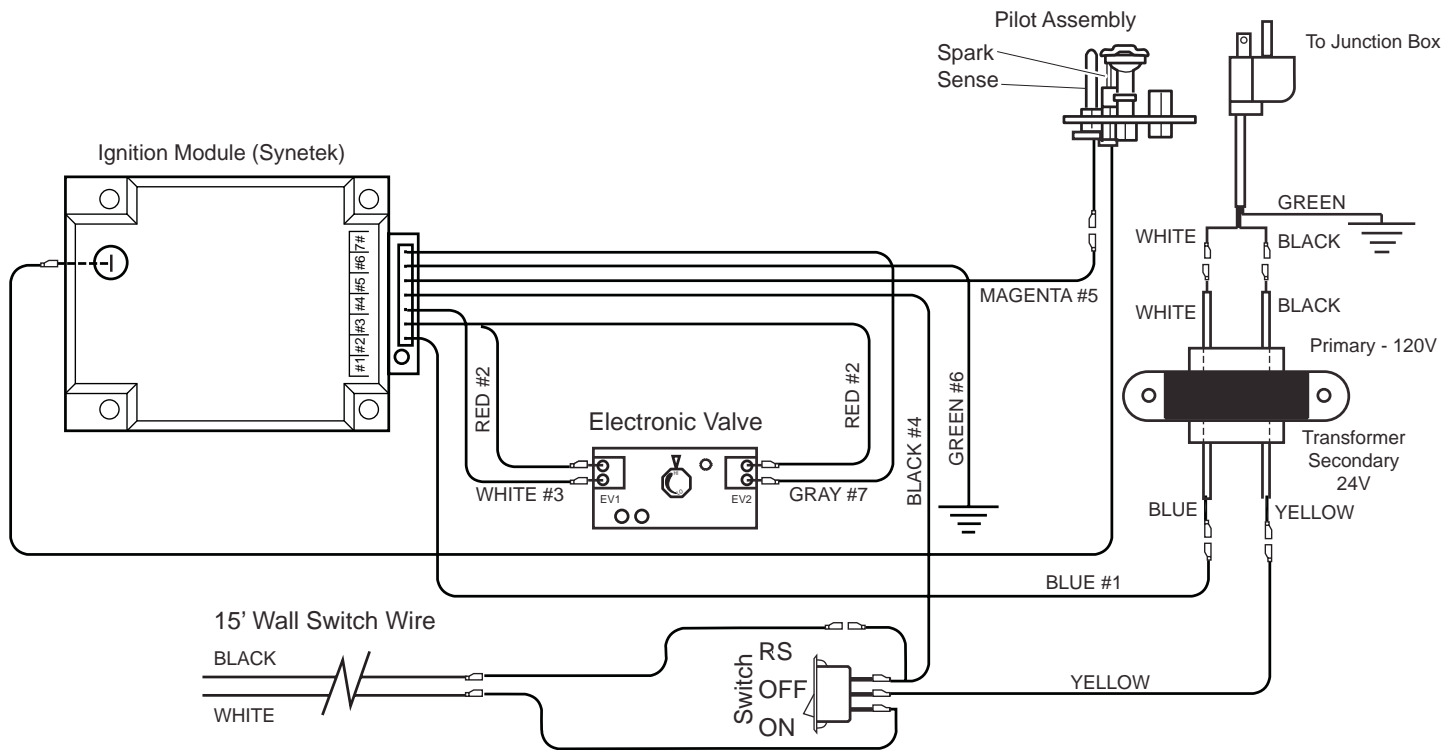

Figure 41 - Electronic Ignition System Wiring Diagram
2. Connect the wire terminal from the remote receiver. This replaces the 15' wall switch connection to the switch. *See Figure 41.*